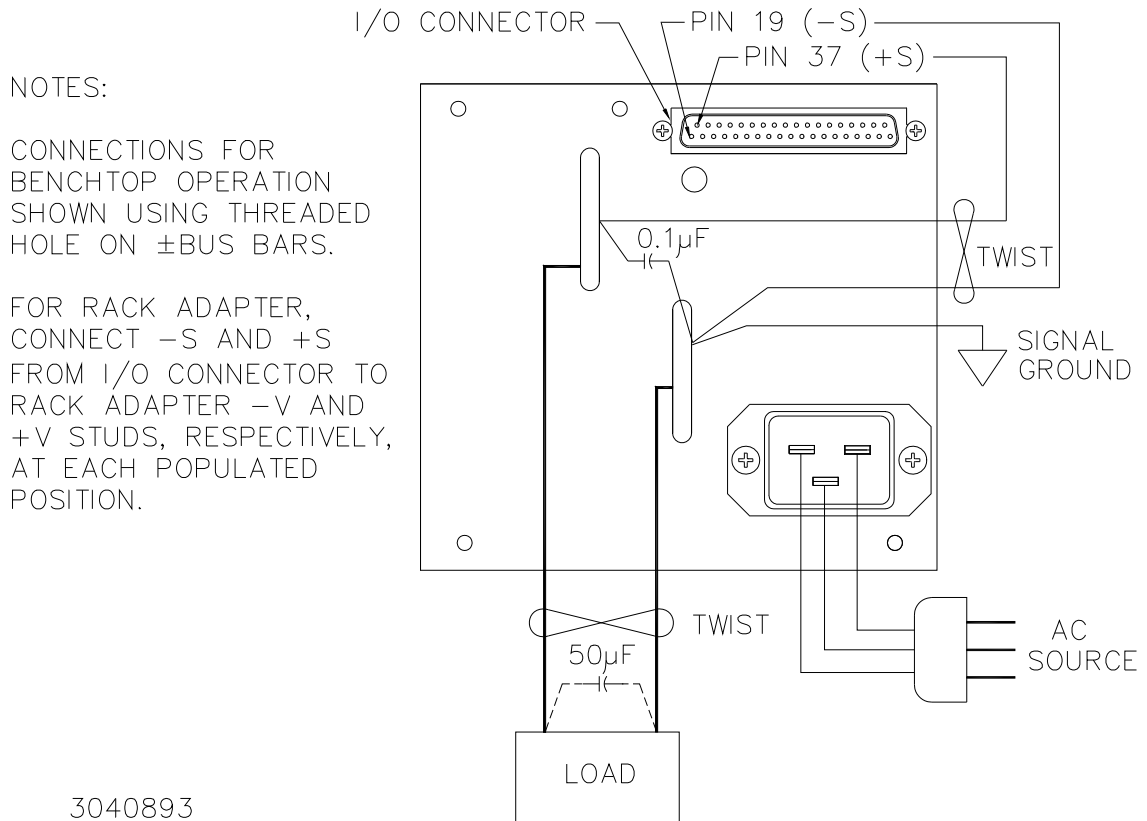

FIGURE 2-3. LOAD CONNECTION - METHOD I (LOCAL ERROR SENSING)
1. THE POWER SUPPLY WILL NOT OPERATE UNLESS THE REMOTE SENSE LINES ARE PROPERLY CONNECTED TO THE OUTPUT TERMINALS! Connect the remote sense terminals to the output bus bars using the mating I/O Connector (Kepco P/N 142-0422) or other means as shown in PAR. 2.7.5.1 and Figure 2-3.
The rear panel of the HSM power supply is equipped with an IEC 320 style recessed power inlet connector which provides interface to a 3-wire safety line cord via a polarized mating plug. Kepco offers as accessories (see Table 1-3) both a user-wired mating connector and a prewired linecord set, the latter configured for North American applications. Terminal assignment follows internationally accepted conventions (see Figure 2-3). It is the user's responsibility to ensure that all applicable local codes for source power wiring are met.
The most basic power supply/load interface is a 2-wire connection between the power supply output terminals and the load. This connection method employs local error sensing which consists of connecting the error sense leads directly to the power supply's output terminals. Its main virtue is simplicity: since voltage regulation is maintained at the power supply output, the regulation loop is essentially unaffected by the impedances presented by the load interconnection scheme. The main disadvantage is that it cannot compensate for losses introduced by the interconnection scheme and, therefore, regulation degrades directly as a function of distance and load current. The main applications for this method are for powering primarily resistive and relatively constant loads located close to the power supply, or for loads requiring stabilized current exclusively. The load leads should be tightly twisted to reduce pick-up. See Figure 2-3.
All HSM power supplies are equipped with remote error sensing to compensate for the voltage drop inherent in any power supply/load interconnection scheme. The amount of compensation varies based on output voltage: 3.3V and 5V models compensate up to 0.25V drop in each power lead (0.5V total), while 12V through 48V models provide for up to 0.8V drop in each lead (1.6V total). ***The remote error sense leads must be connected to the output power terminations, either locally at the power supply output terminals or remotely at the load terminations, using the correct polarity, for the HSM to operate properly.*** (See Figures 2-3 through 2-6.)